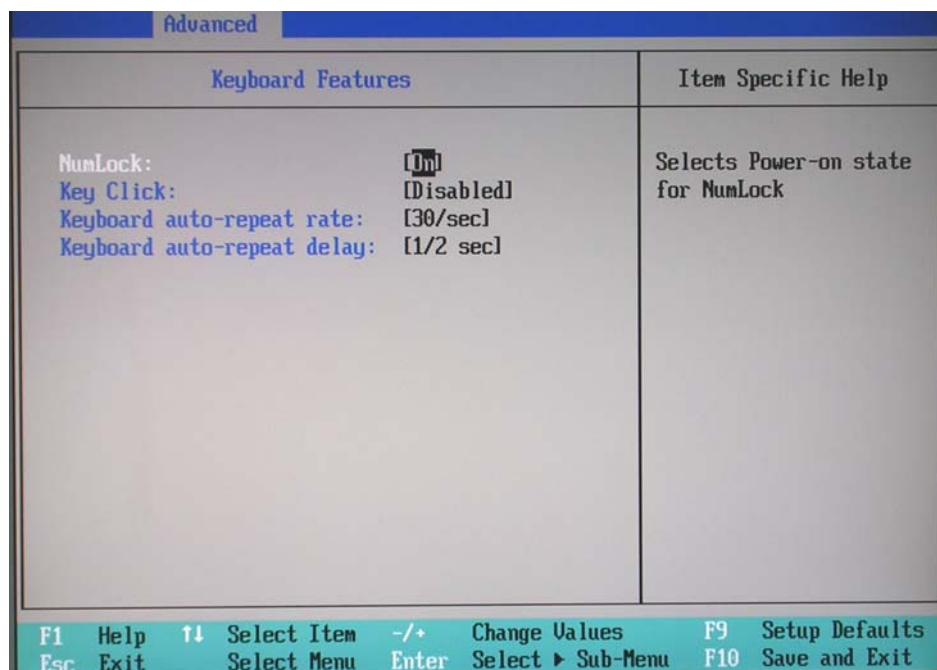

Figure 8-61 BIOS Advanced Keyboard Features Parameters
Keyboard Features	Figure 8-61 on page 8-72
- 15.) Set the parameters in the **Keyboard Features** screen as shown above in Figure 8-61.